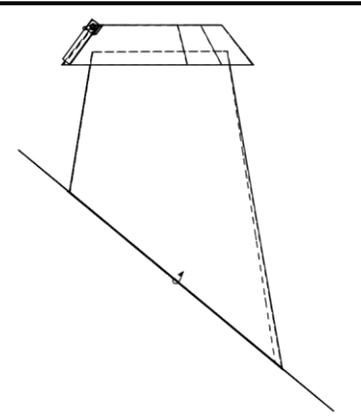

FIGURE 15 **STORM COLLAR POSITION**
8. Place the storm collar over the chimney and flashing (see Figure 15). Seal the collar to the chimney with silicone (high temperature not required).